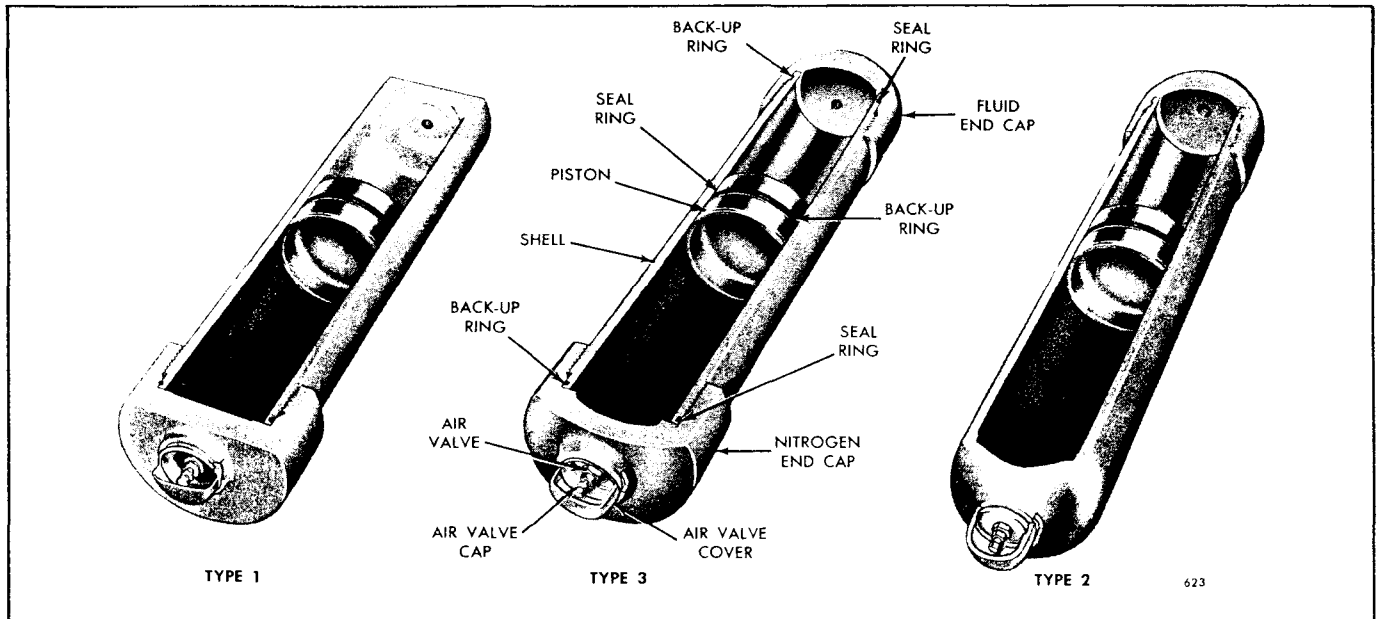
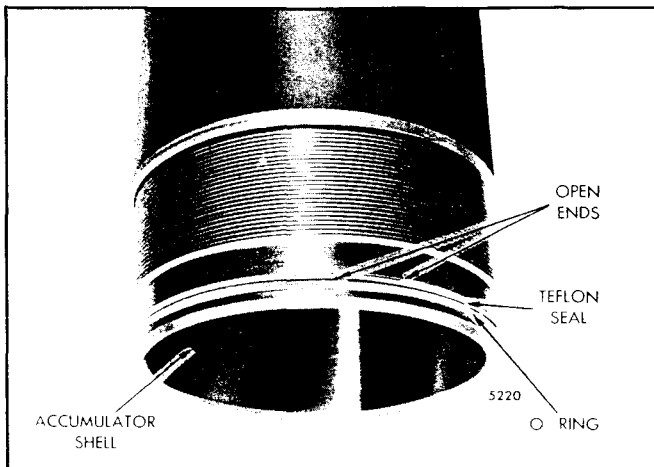

Fig. 20 - Cross Section of Typical Accumulators
Fig. 21 - Proper Installation of Teflon Back-up Ring
Three different types of accumulators (Fig. 20) have been used with the Hydrostarter system. The accumulator consists of a heavy duty shell assembly and piston designed to hold the nitrogen pressure for an extended period of time.
1. If a defective air valve was the cause of leakage, remove the air valve cover (Fig. 20) from the accumulator cap and the air valve cap from the air valve. Loosen the $5/8$ " hex swivel nut on the air valve stem approximately 1-1/2 turns and then depress the valve core to release any remaining nitrogen pressure before removing the air valve. Remove the valve and replace it with a new part.
1. Install new teflon back-up rings (Fig. 20) and new seal rings ("O" rings) in the grooves of the shell, with the seal ring nearest the open end of the shell (Fig. 21).
2. Remove the air valve cover (Fig. 20) from the accumulator cap and the cap from the air valve.